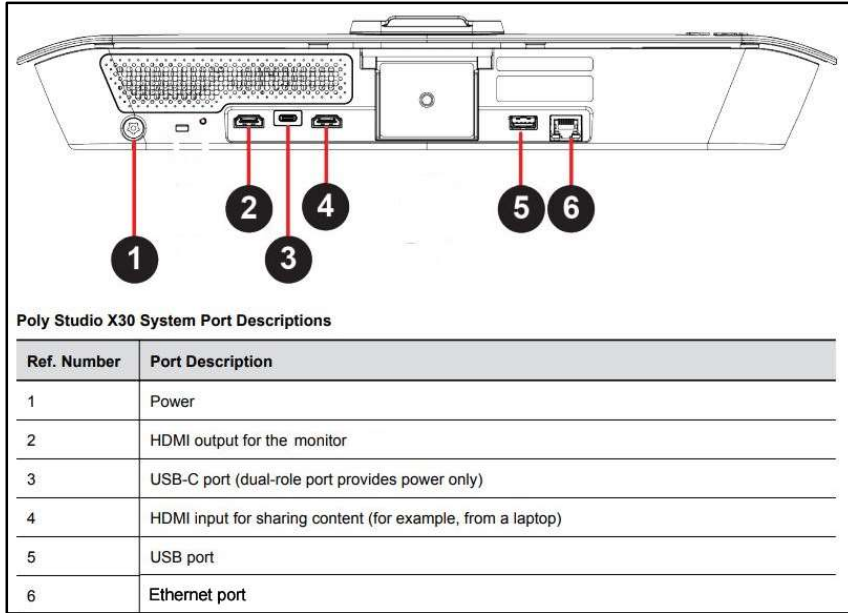

Figure 7. Video System Connections
4. Connect cables from the top of the unit to the video system as outlined on diagram shown in Figure. 7